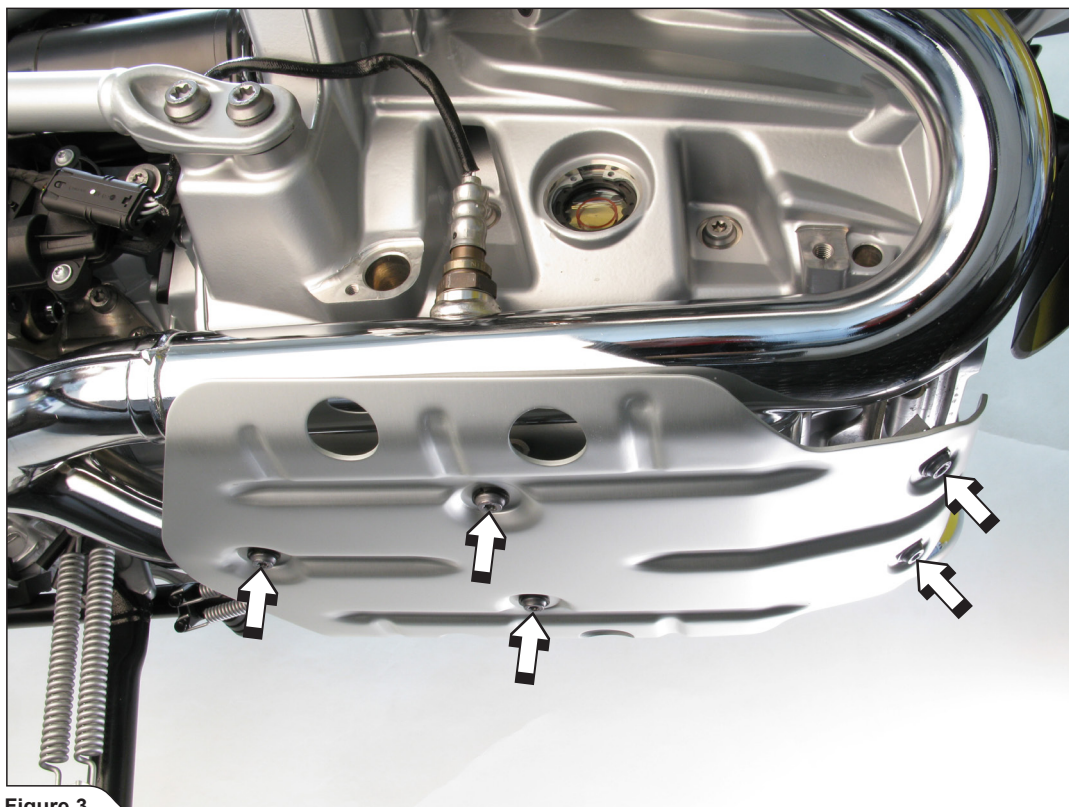

Figure 3
4. Unscrew the marked bolts and remove the skid plate off the motorcycle (Figure 3).